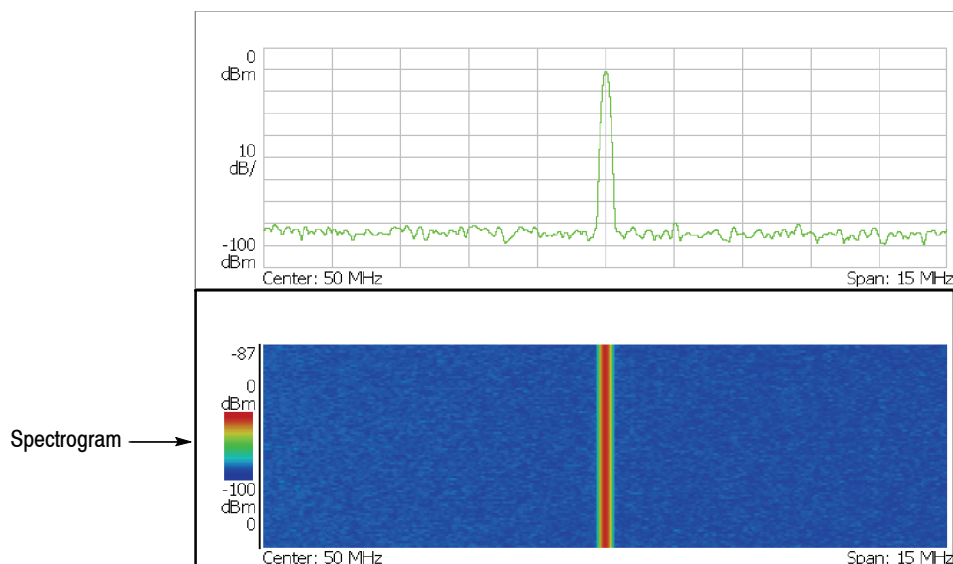

Figure 3-4: Spectrogram display
- a. Press **S/A > S/A with Spectrogram**. Check that the spectrogram is displayed on the lower side of the screen (see Figure 3-4).